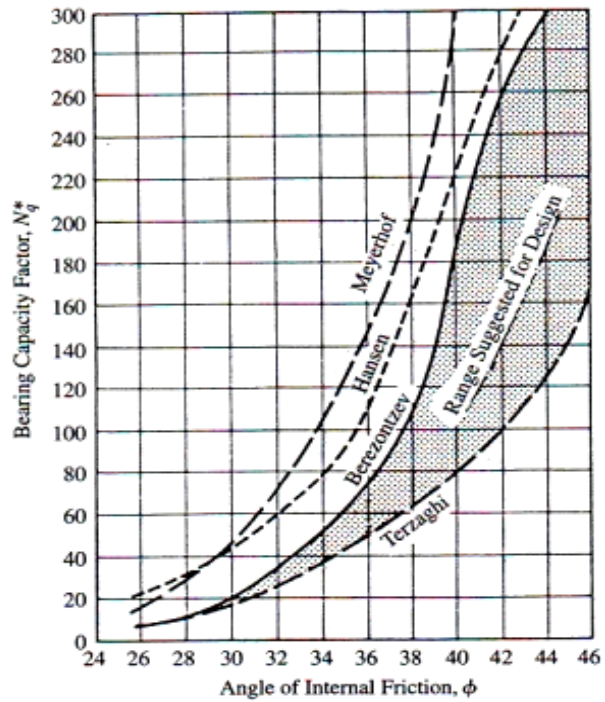

Figure 8 – Chart associated with Question 6(b)
- ii) End Bearing is given by $Q_{ult} = A_p q_{ult} = A_p p_v N_q^*$, associated chart is given in Figure 8.